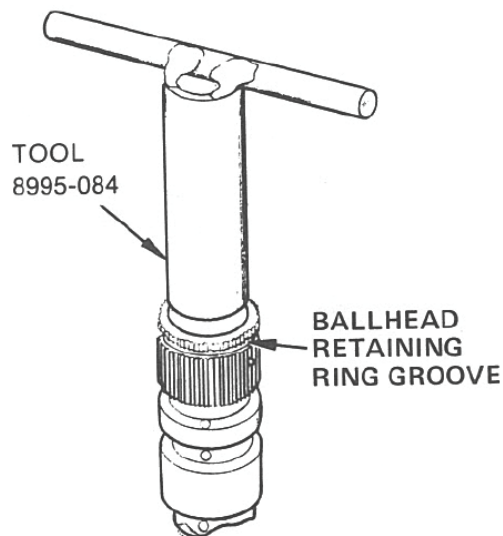

Figure 3-13. Seating Retaining Ring
8. Use Waldes Truarc pliers to fit retaining ring (37) into top of pilot valve plunger. Finish seating retaining ring into inside groove with tool 8995-084. See Figure 3-13.
14. Place ballhead assembly on pilot valve bushing and secure by placing retaining ring into groove on outside of pilot valve bushing. See Figures 3-13 and 3-17.